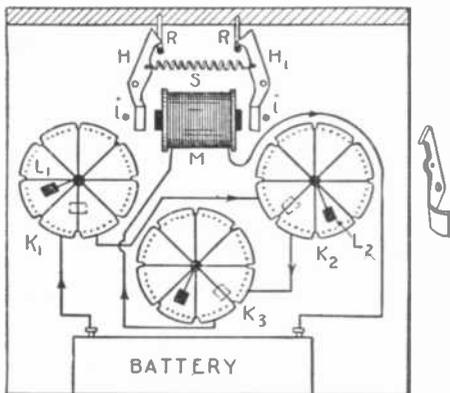

FIG. 1
Fig. 1 shows the arrangement and wiring of the combination lock. It is reproduced in natural size so that no measurements need be given. (AAAA) is the inner side of one wall of the bank to be made of any wood selected. (D) is a sectional cut of the lid. The various parts are mounted on the board as shown. (M) is the electro-magnet. (H) and (H₁) are lever hooks, the construction of which is plainly shown in Fig. 2. They are screwed to the wood so that they can turn upon the screw. The spiral spring (S) holds them in position so that they lock into the staples (R) and (R₁) fastened to the lid and thus keep the bank locked. If a current goes through the magnet, the broad